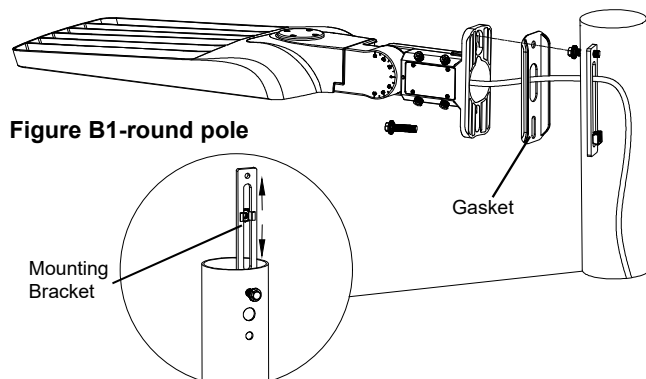

Figure B1-round pole
- Place mounting bracket inside Pole and insert 3/8" bolt through top hole in pole and thread into top hole of the mounting bracket. See Figure B1
- Place mounting bracket inside round Pole and insert 3/8" bolt through top hole on gasket and top hole in pole and thread into top hole of the mounting bracket. See Figure B1